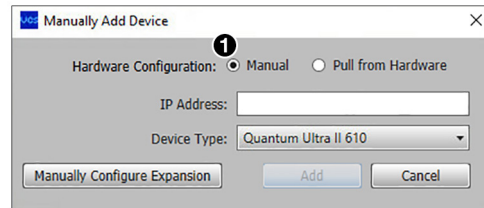

Figure 86. Manually Add Device Dialog Box
4. In the **Manually Add Device** dialog box, select the **Hardware Configuration: Manual** radio button (see figure 86, ①).